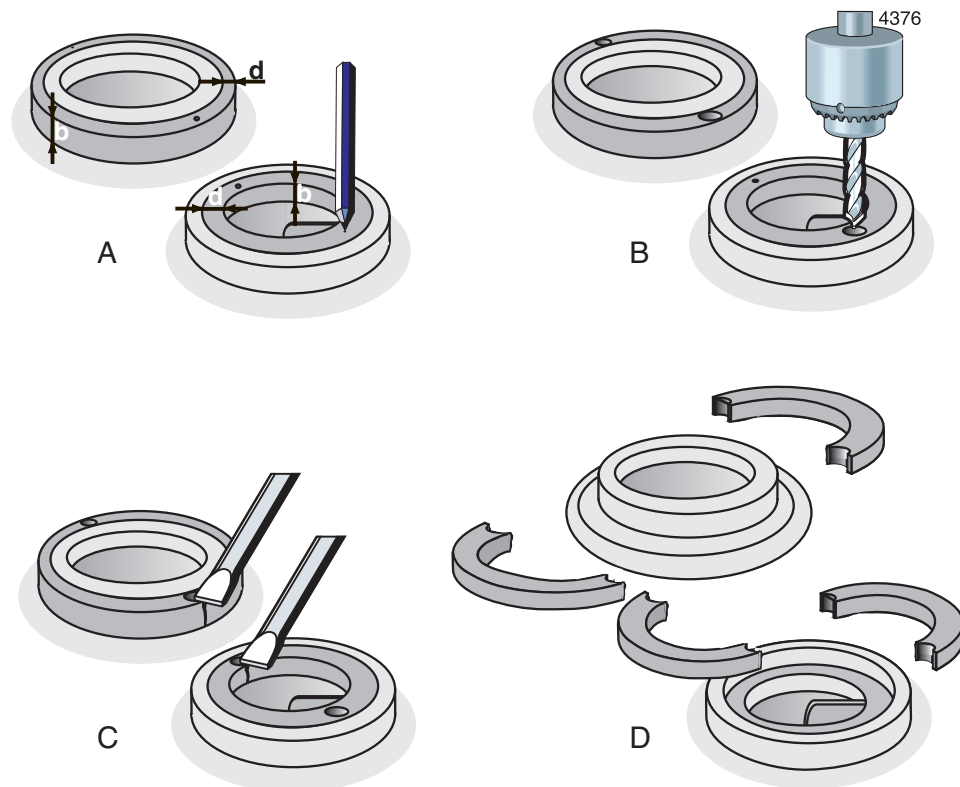

Figure 10: Removal of wear ring.
- 4 Measure the thickness (d) and the width (b) of the ring, see figure 10 A.
- 5 Make a centre hole in the middle of the edge of the ring at two opposite points, see figure 10 B.
- 6 Use a drill with a diameter just a little bit smaller than the thickness (d) of the ring and drill two holes in the ring, see figure 10 C. Don't drill deeper than the width (b) of the ring. Take care not to damage the fitting edges of the pump casing and impeller.
- 7 Use a chisel to cut the remaining part of the ring thickness. Now you can remove the ring in two parts from the pump casing, see figure 10 D.